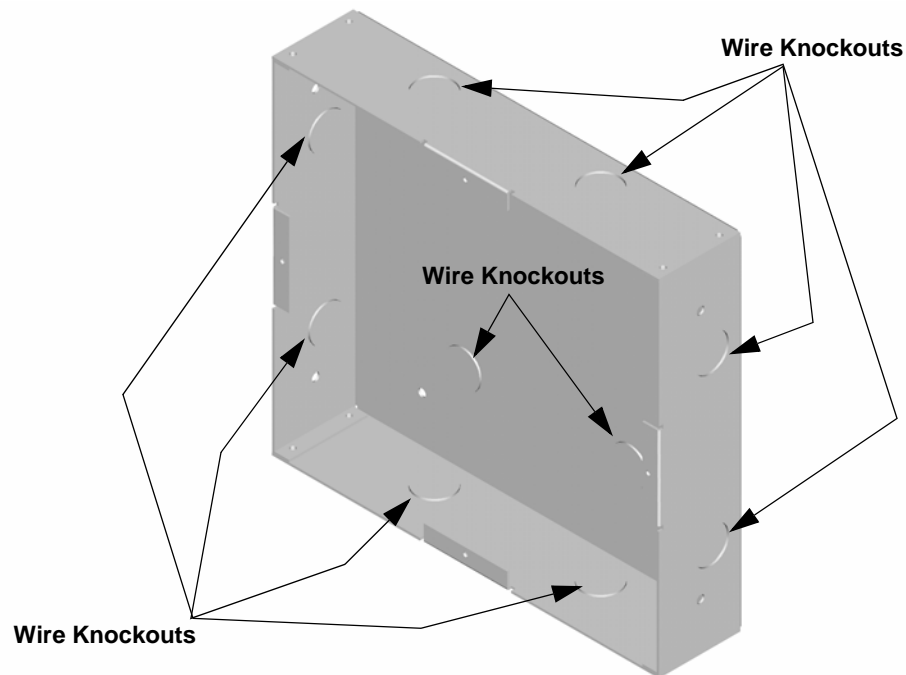

Figure 4-10 Back Box Knockout Locations
2. Remove knockout holes as needed for wires. See Figure 4-10 for backbox knockout locations
1. Remove the desired knock out. See Figure 4-10.